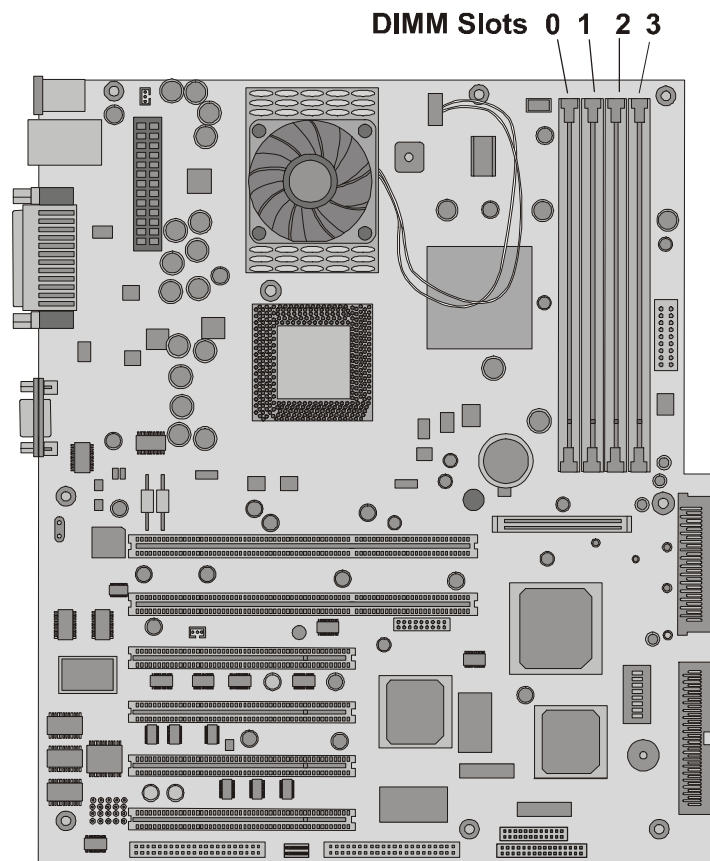

Figure 3-13. DIMM Locations on System Board
4. Choose a DIMM slot for the desired DIMM. See Figure 3-13.